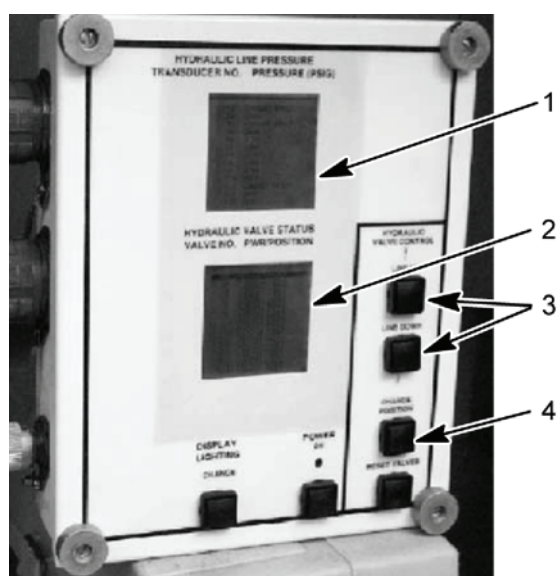

Figure 62. HDC Control Box
- For 3R; Using LINE UP or LINE DOWN button (Figure 62, item 3), select V15 on the HDC display (Figure 62, item 2). Close V15 on the HDC display (Figure 62, item 2) by selecting the CHANGE POSITION button (Figure 62, item 4) on the HDC control box.
- With right-hand SUSPENSION CONTROL lever in the RAISE position, while observing transducer T-1 hydraulic pressure on the HDC display (Figure 62, item 1), turn suspension raise/lower relief valve 3R adjusting screw (Figure 63, item 2), clockwise to increase pressure or counterclockwise to decrease pressure, until desired pressure is indicated.
- Using LINE UP or LINE DOWN button (Figure 62, item 3), select V15 on the HDC display (Figure 62, item 2). Open V15 on the HDC display (Figure 62, item 2) by selecting the CHANGE POSITION button (Figure 62, item 4) on the HDC control box.